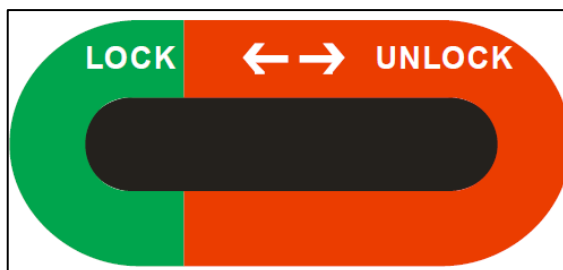

Fig. 2: Canopy placard – current improved design
Only canopy placards of the initial design need to be replaced. In case the current improved design as per Fig. 2 is already installed, no action is required.
2. Install new canopy placards in current improved design as per Fig. 2 below: